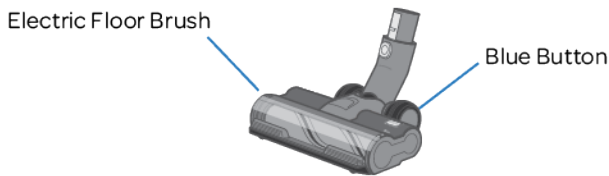

Figure 16
3. Press the blue button to release the Roller Brush Assembly (Figure 16)